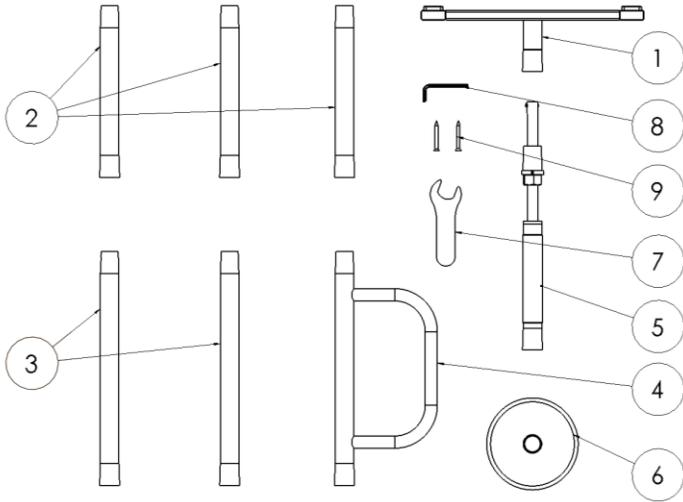

FIGURE 1
1. Remove all parts from the box at the location you will be using this product and lay them on a flat surface as shown in Figure 1.